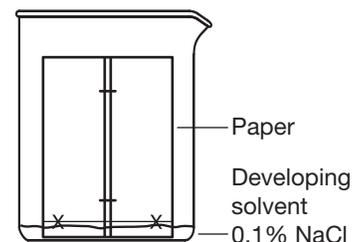

Figure 5.
10. Remove the watch glass from the beaker and carefully place the paper cylinder into the chamber with the sample end down (as shown in Figure 5). Do not get any solvent on the upper portion of the chromatography paper. The sample spots must be above the level of the solvent. If the solvent level is too high, the samples will dissolve into the solvent.